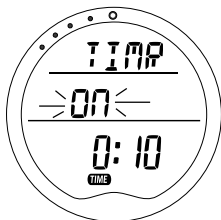

Fig. 20 - Timer Started
- Pressing and releasing the S button momentarily (< 2 seconds) will toggle from OFF to ON and Start the Timer (Fig. 20).